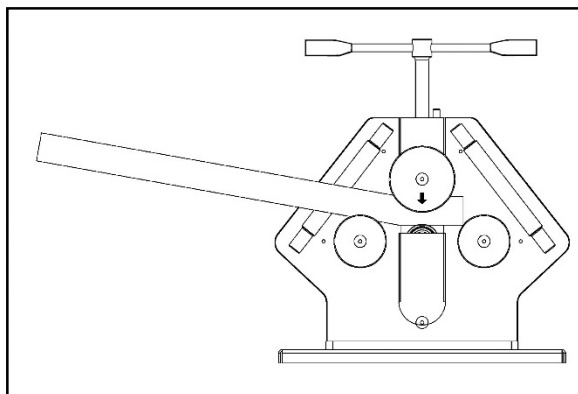

Figure 8-4: lower middle roll
4. Lower middle roll again (Figure 8-4).